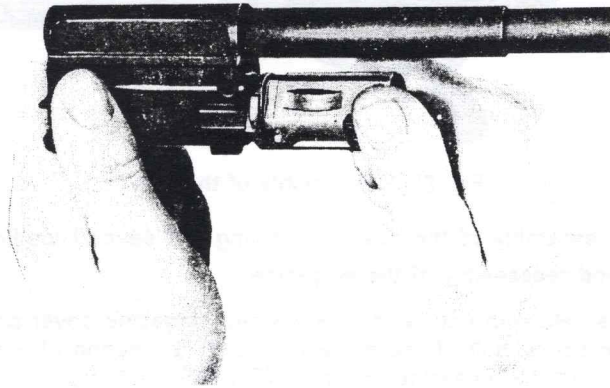

Fig. 70: Disassemble plastic training breech block
- Turn the bolt head away from the bolt head carrier and remove it (Fig. 70).